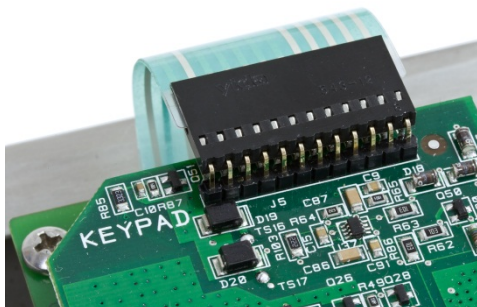

Figure 3-29: Keyboard Connection on IND560x-PAB
7. Connect the keypad cable to new connection point on IND560x-PAB. This new connection point is indicated with "KEYPAD" (Figure 3-29).